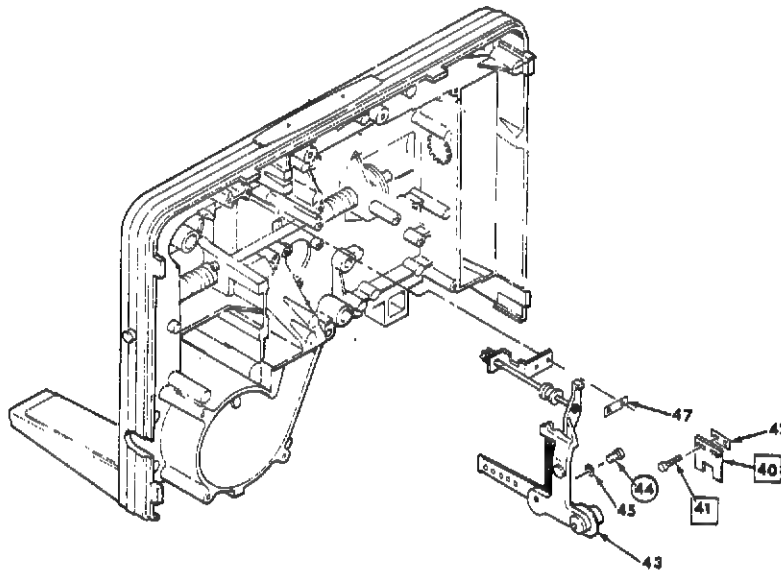

Figure 3-32. FRAMING ADJUSTMENT
1. After the Claw Arm Adjustments have been checked and/or made, the Framing Limit Plate can be adjusted. (Figure 3-32)
3. Loosen two Screws (41) and slide the Framing Limit Plate (40) so the top of the Framing Arm (43) is centered in the notch of the Framing Limit Plate (40). Tighten the two Screws (41).
4. Run the projector in FORWARD and adjust the Framing Knob maximum in both directions. A frame line should move into the projected picture an equal amount on both top and bottom. Readjust the Framing Limit Plate (40) until this requirement is met.